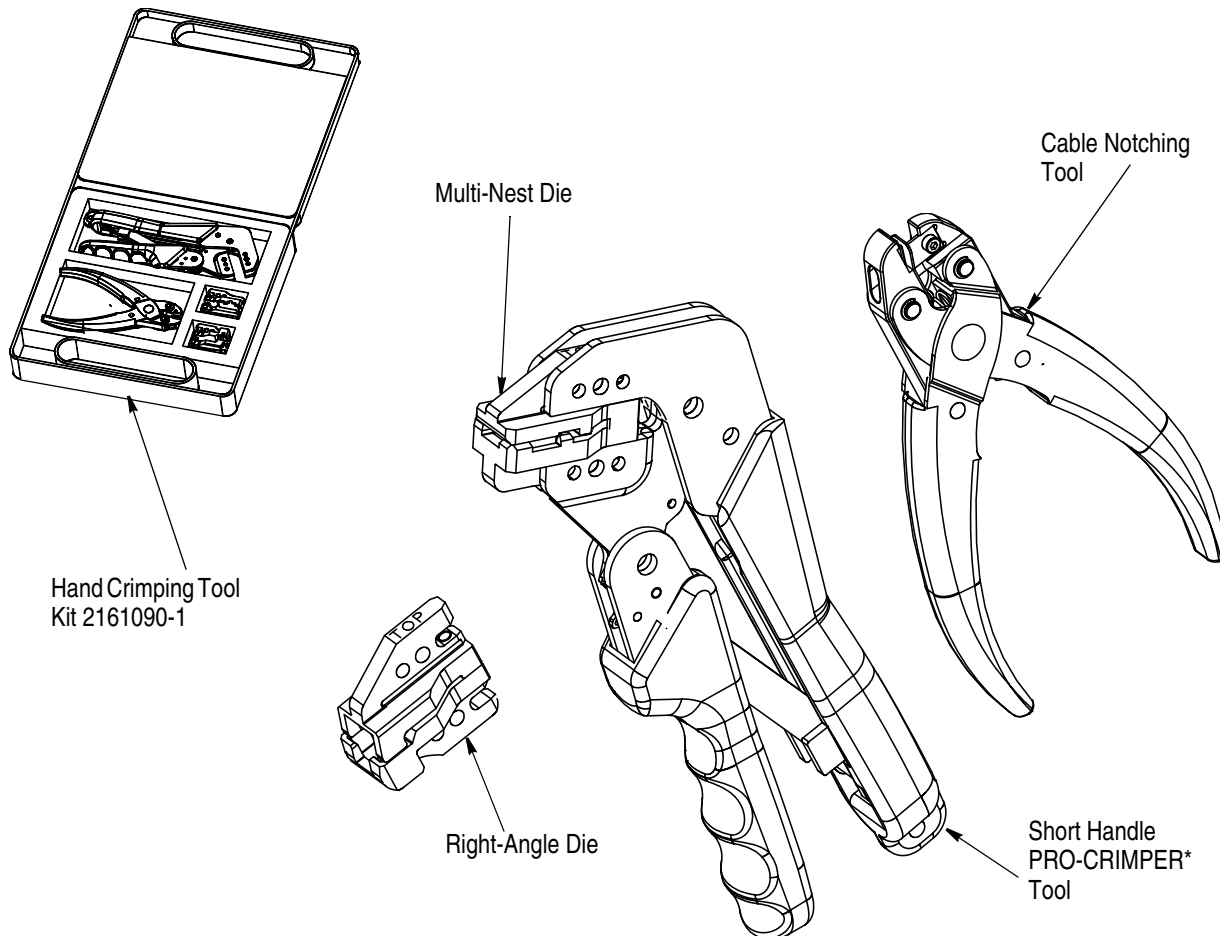

Figure 1
NEVALO Interconnect System Hand Crimping Tool Kit 2161090-1 (Figure 1) is designed to prepare cable and crimp connectors for the new NEVALO Interconnect System.
2. DESCRIPTION (Figure 1)
The Cable Notching Tool (Figure 1) provides a consistent and fast way to notch the ribbon cable. After selecting the proper location for the notch, proceed as follows: